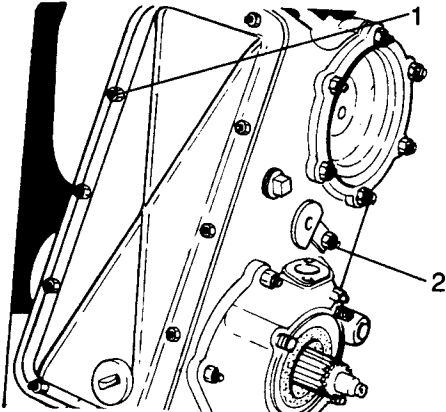

Fig H2.7
- (2) Refer to Fig H2.7. Remove the fixings (1) from the transfer box cover, together with its joint washer.
- (3) Remove the retaining nut, washer and lock washer (2) from the shaft.